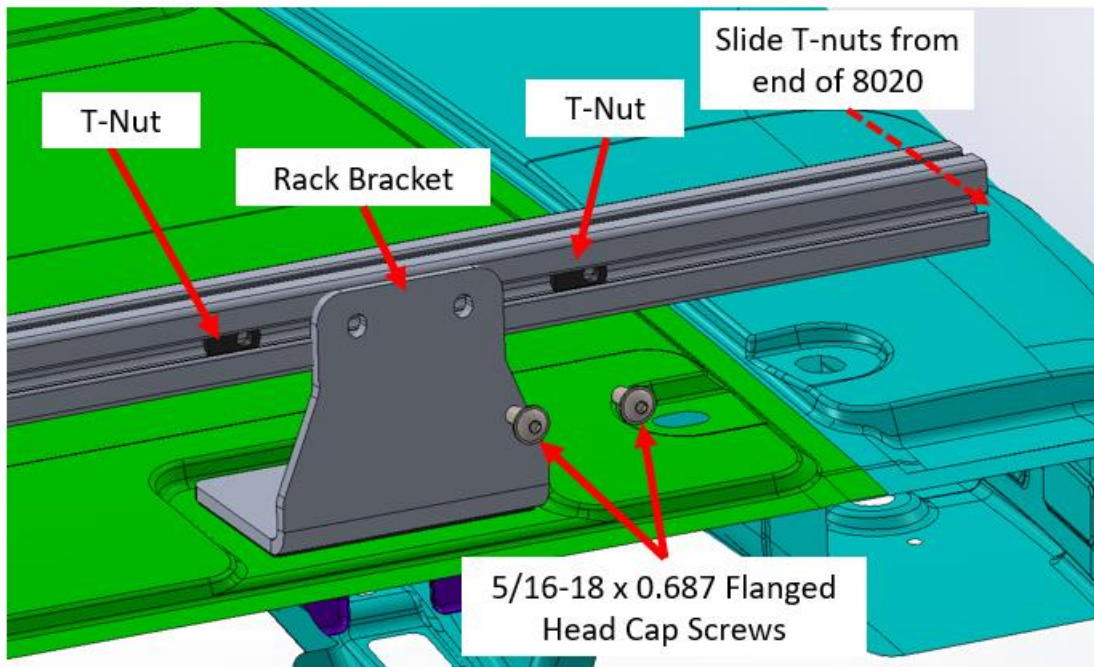

Figure 20: Unaka rack bracket hardware installation
3. Slide 2 x T-nuts into the extrusion for each rack bracket you will be bolting to. Space the T-nuts so they are 2" to 3" outside of the bracket profile on each side, Figure 20. This will allow you to